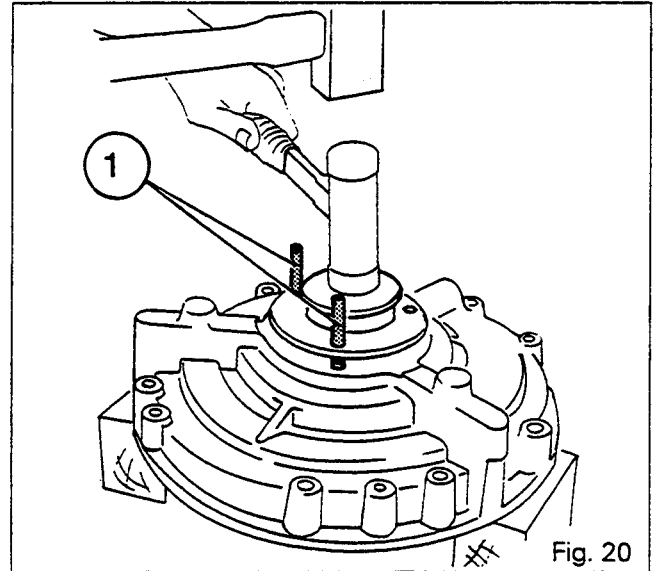

Fig. 20
**N.B. : Ball (40) is crimped into the ring carrier.**
66. Screw two pilot pins (1) into the cover. Engage the ring carrier in the cover bore (Fig.20).
67. Tap the ring carrier home in the cover (Fig.20).
68. Lubricate shaft (36) and insert it in ring carrier (33) from the front.
69. Refit washer (38) and circlip (37).